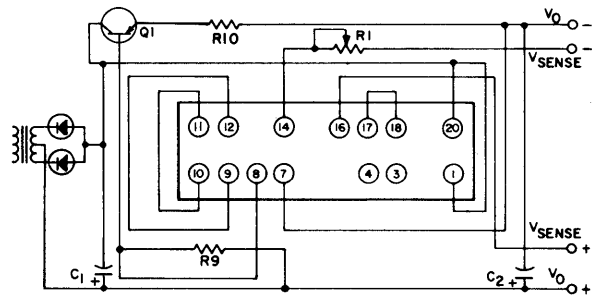

Fig. 24 Power Hybrid Voltage Regulator used with parallel pass transistor for higher output current
6. Nominal value of the current sharing resistor R10 for Fig. 24 is determined from following table.